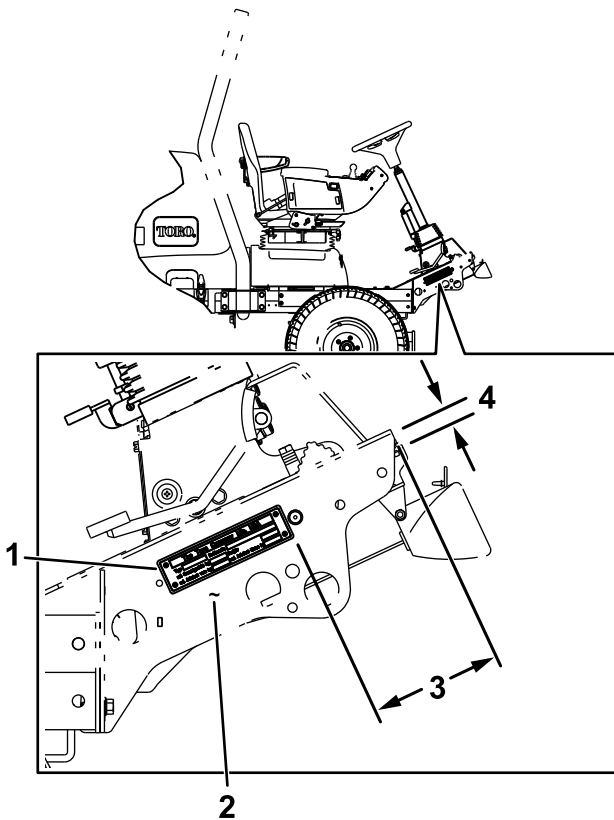

Figure 25
4. Hold the serial plate on the right side of the machine, 6 mm (1/4 inch) above the bottom edge (Figure 25). Use the serial plate as a template and drill 4 holes (3 mm or 1/8 inch).
6. Stamp the serial number to the frame, near the serial plate (Figure 25).